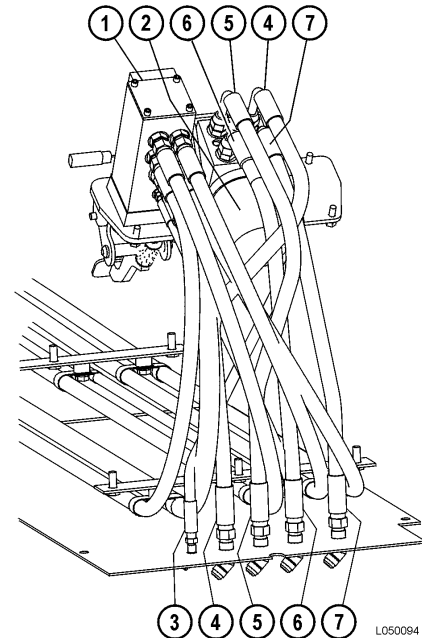

FIGURE 5-2. STEERING CONTROL UNIT
3. Tag all hydraulic lines for proper identification during installation. Disconnect the hydraulic lines (see Figure 5-2) at the steering control unit. Plug all hoses.
4. Tighten all capscrews to the standard torque. Unplug and attach the hydraulic lines to their proper ports on the steering control unit. Refer to Figure 5-2.